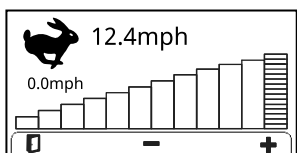

Figure 28
- **Traction-speed adjustment screen (Figure 28):** Press the button to access this screen and adjust the maximum speed while the cutting unit is in the OPERATING position (indicated by the icon) or while the cutting unit is in the TRANSPORT position (indicated by the icon).